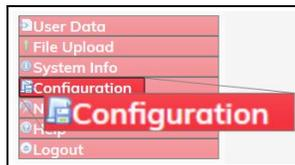

Figure 160: Configuration link
4. On the **Menu** list, click the **Configuration** link. Figure 160